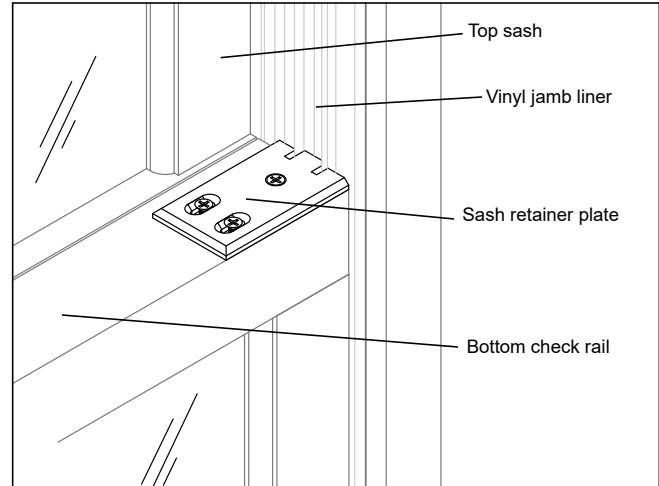

Figure 12
- With bottom sash installed, slide both sash retainer plates tight against the vinyl jamb liner. Secure each plate in place by installing the screw provided into pre-drilled hole in check rail. Then tighten existing screw in each sash retainer plate. **NOTE:** After securing sash retainer plates, bottom sash cannot be tilted. In order to tilt bottom sash, remove screw in round hole and loosen the one in elongated hole. Slide retainer plate away from vinyl jamb liner track. Remember to return plates to the locked position, replace and tighten screws. See figure 12.